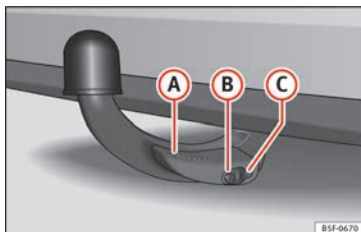

Fig. 229 Detachable ball properly attached.
- Lever ① »» Fig. 229 is fully raised.
- The release bolt ② »» Fig. 229 is sticking fully out (the red and green part is visible).
- Cover ③ »» Fig. 229 is placed over the lock.